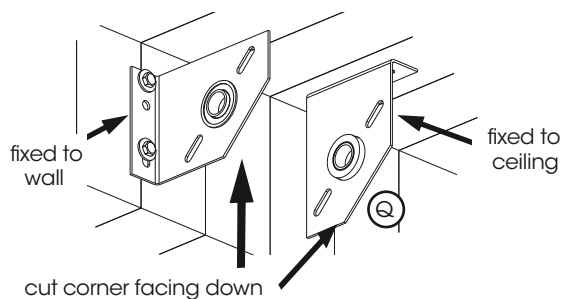

Fig: 3.5.2
- Determine whether the spring anchor bracket (Q) is going to be mounted to the wall or ceiling as per Fig 3.5.2 and ensure the cut corner of the bracket is facing down.
- Place the torsion bar (B) on the floor and slide the spring anchor bracket (Q) onto the torsion bar, positioning it approximately half way along.